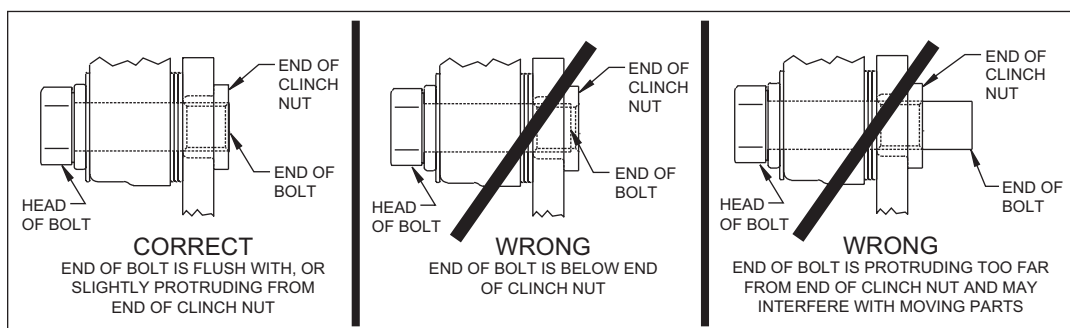

Figure 3. Clinch Nut Engagement Diagram
CAUTION: All mounting bolts must fully engage clinch nuts. Be sure to check that all bolts are either flush or protruding through flanged side of clinch nut after shimming, Figure 3.
STEP 4 Slide the rotor (5) onto the axle flange. **NOTE:** The rotor/hat must fit flush against the axle flange or excessive rotor run out may result. Install three lug nuts (finger tight) to keep the rotor/hat assembly in place while continuing with the installation, Photo 3.
STEP 5 **NOTE:** Please reference the caution statement at the beginning of the assembly instructions. Mount the caliper (6) onto the caliper mounting bracket (2) using bolts (7) and washers (8), as shown in Figure 1. Initially place two .035" thick shims (9) on each bolt between the caliper and the bracket, Photo 4. Temporarily tighten the mounting bolts and view the rotor (5) through the top opening of the caliper. The rotor should be centered in the caliper, Photo 5. If not, adjust by adding or subtracting shims between the bracket and the caliper. Always use the same amount of shims on each of the two mounting bolts. **NOTE:** The end of each bolt must be flush with or slightly protruding from the head of the clinch nut, as shown in Figure 3. If necessary place spare shims between washer (8) and caliper mounting ear to achieve the proper clinch nut engagement. Once the caliper alignment and clinch nut engagement are correct, remove the bolts (7) one at a time, apply red *Loctite*® 271 to bolt threads, and torque to value shown in Figure 1.